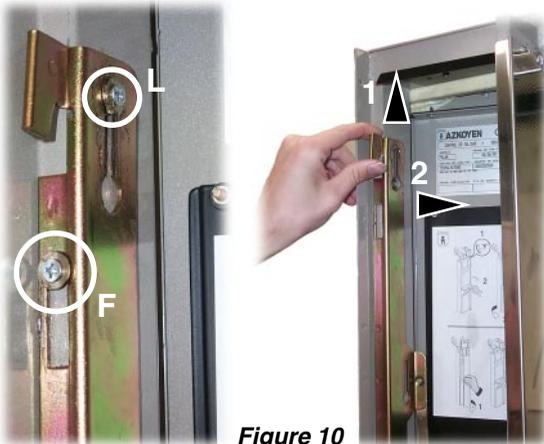

Figure 10
- 4.- Loosen the four screws of the front guides (F) of the bar (those with the rectangular grooves, **figure 10**).
- 5.- First pull the bar upward to free the lateral guide screws (L) and then outward to remove the bar from the door. See **figure 10**.